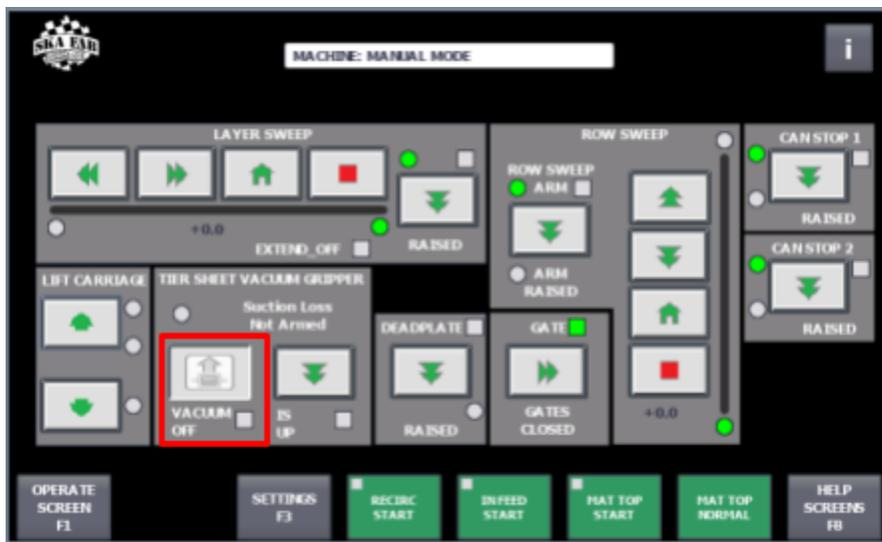

Fig. 5: Tier Sheet Vacuum ON/OFF button on Manual Mode screen
1. With no tier sheet covering the vacuum cups on the Layer Sweep Assembly, turn on air to the Vacuum Generator in Manual Mode (for more on Manual Mode controls, see Section 5.3 Manual Operations) by pressing the Tier Sheet Vacuum ON/OFF button, as shown in Fig. 5. Make note of the value shown on the Vacuum Generator sensor display as the Open Air Value. (This value varies based on incoming air pressure and altitude.)